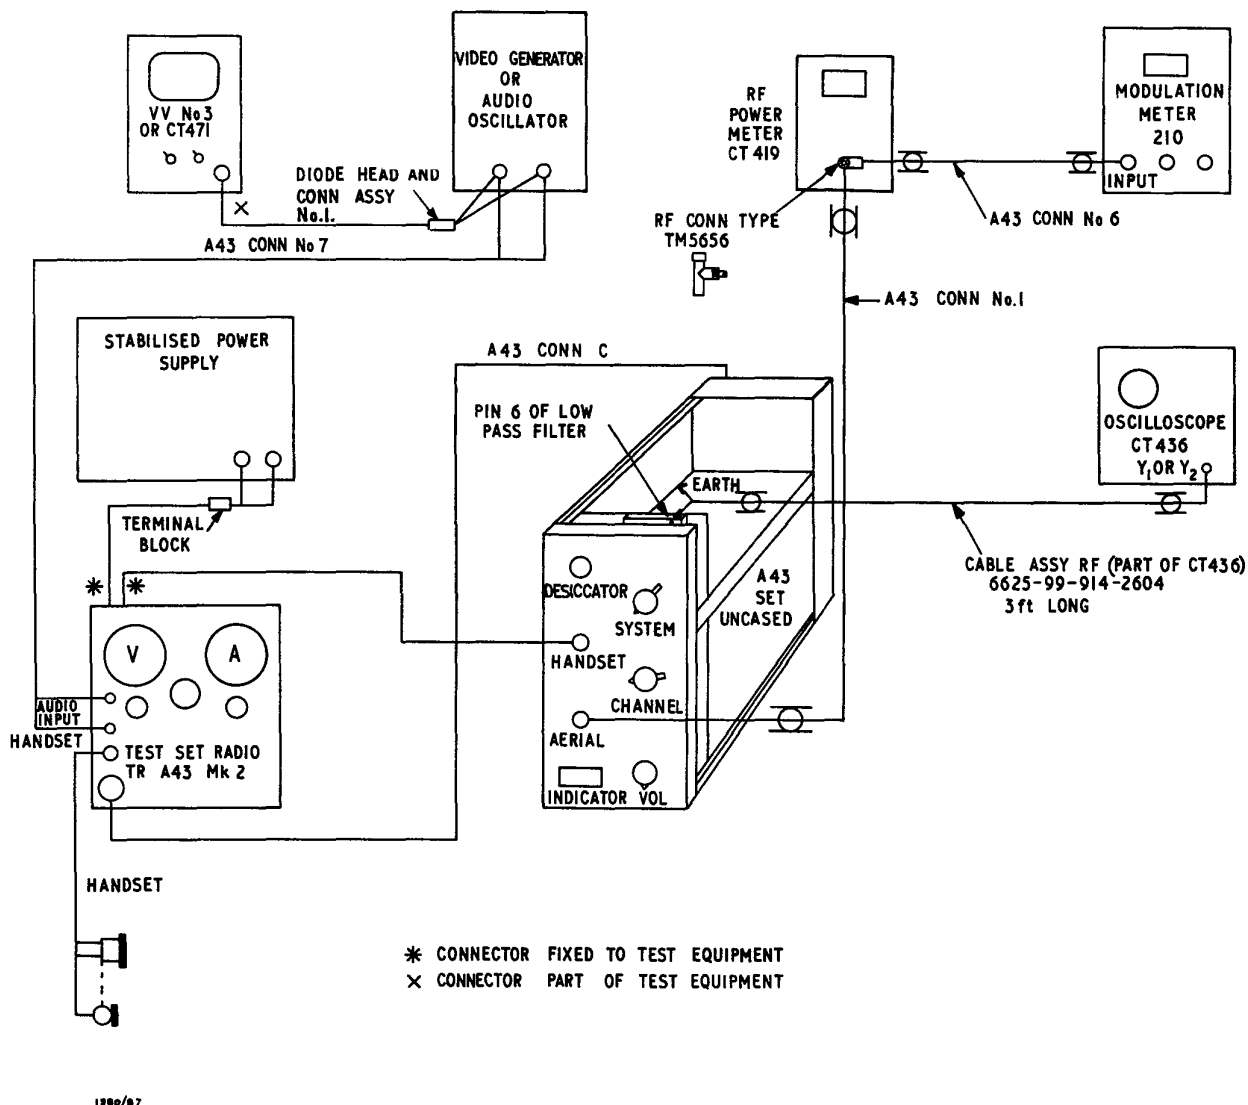

Fig 5 - Transmitter speech clipper/beacon tone, test layout
66. a. With the A43R Mk 2 connected as detailed in Fig 5 and an input level of 3V at 1000c/s, check that the waveform displayed on the oscilloscope is symmetrical.